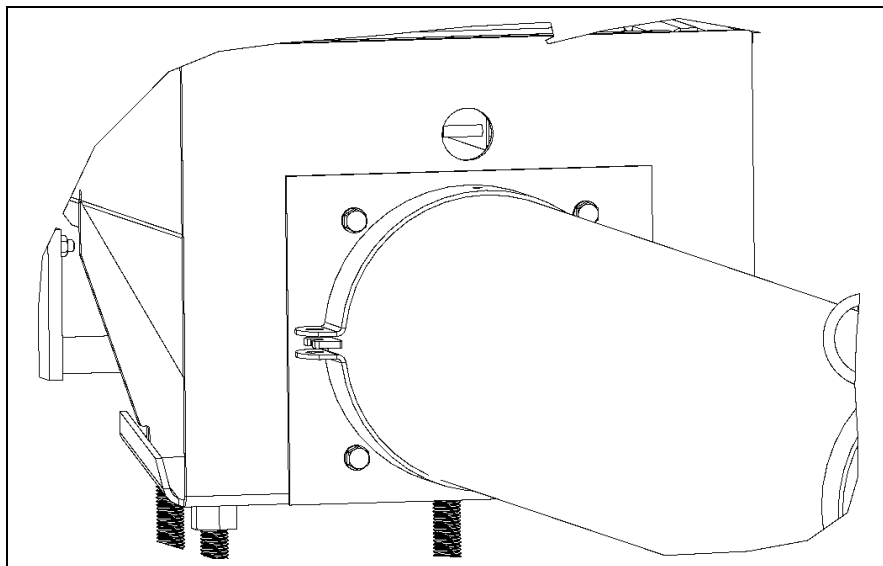
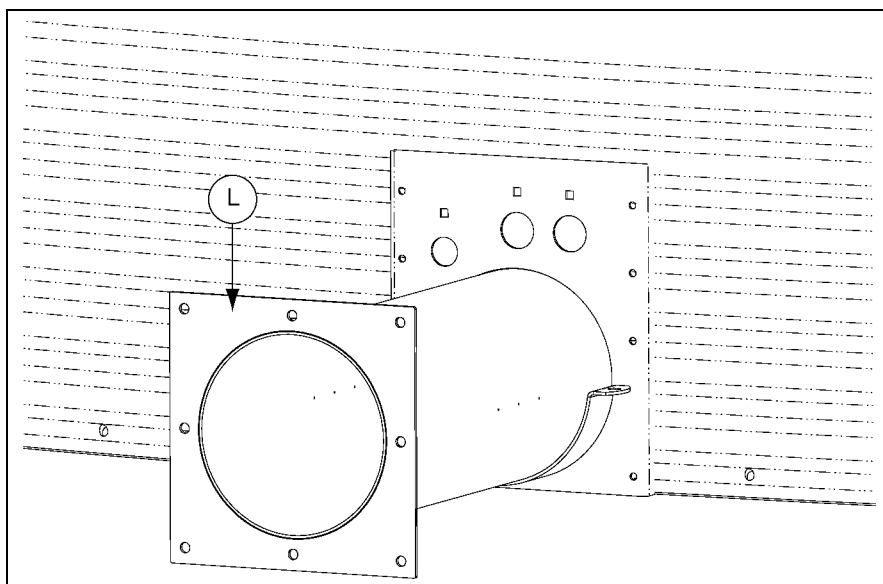

Figure 5J
Figure 5K
11. Connect the discharge auger tube to the Grain Flow sump. Be sure that the locator tabs welded on the auger tube are in position between the clamp bands. At this time, check the square flange welded onto the opposite end of the auger tube making sure it is level. Finish by tightening the two (2) $\frac{3}{8}$ " x 1- $\frac{1}{4}$ " bolts and nuts holding the two (2) clamps together. The square flange on the auger tube must be level to ensure the power unit or vertical augers, if utilized, will be level and plumb. (See Figure 5J and Figure 5K.)